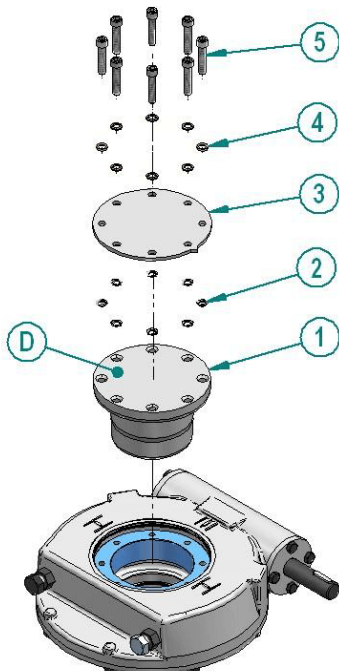
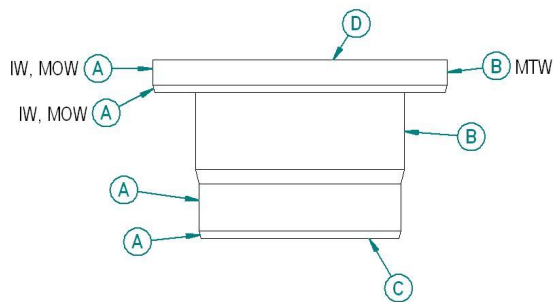

Figure 112: 1... Output Sleeve, 2... O-rings, 3... Indicator cover, 4... Serrated Washers, 5... Retaining Screws
Figure 113
Gearbox sizes IW12 to IW16 have an output which is directly machined as specified with the order. All other worm gearbox combinations have a removable output sleeve (1) (see Figure 112).
Figure 112 shows the removal of the output sleeve from the gearbox. See Figure 112 for removing the output sleeve without damaging the sealing faces.
Before refitting the output sleeve after machining, check that the surfaces marked 'A' in Figure 113 are not damaged. Damaged surfaces can break the gearbox seals and cause water ingress or grease leakage. Applying a thin layer of grease to the faces marked 'A' will make refitting of the sleeve easier.
As detailed in Figure 112 and Figure 113, it is recommended that silicon sealant is applied to face 'D' to seal the indicator/cover plate to the output sleeve. Taking care not to apply sealant to the o rings (2) or the sealing faces of the o rings.
Before re-assembly, clean and de-grease the top face of the output sleeve, underside of the indicator/cover plate, and the socket head cap screws. Make a note of the tightening torque required for the output sleeve screws on the label on the underside of the indicator plate. Insert the screws and washers into the holes in the indicator/cover plate, as per Figure 112.